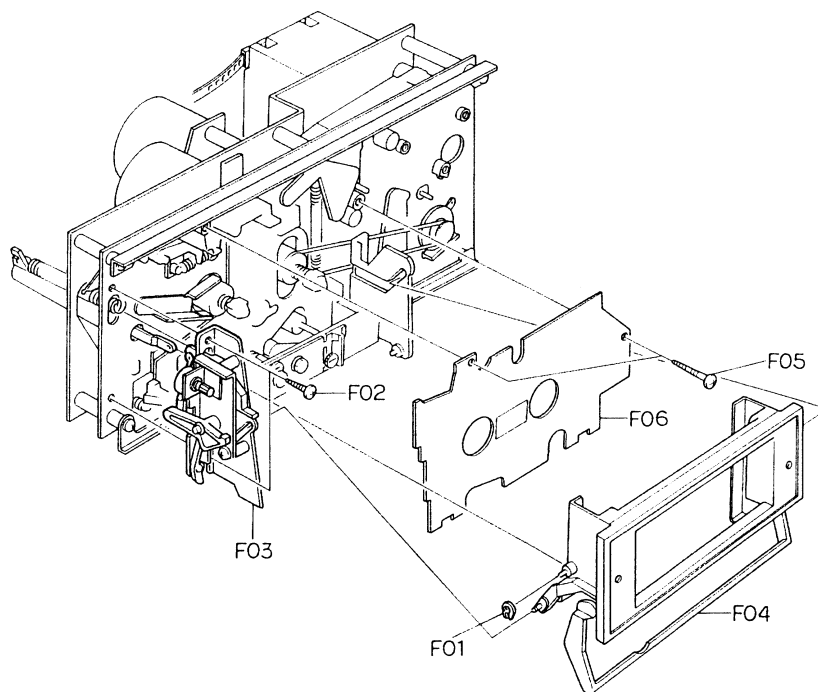

Fig. 2.7
Refer to Fig. 2.7.
- (1) Refer to Fig. 2.7. Remove Cassette Case Ass'y referring to item 2.16.
- (2) Remove F01, then disassemble F02 (Head Mount Base Ass'y).